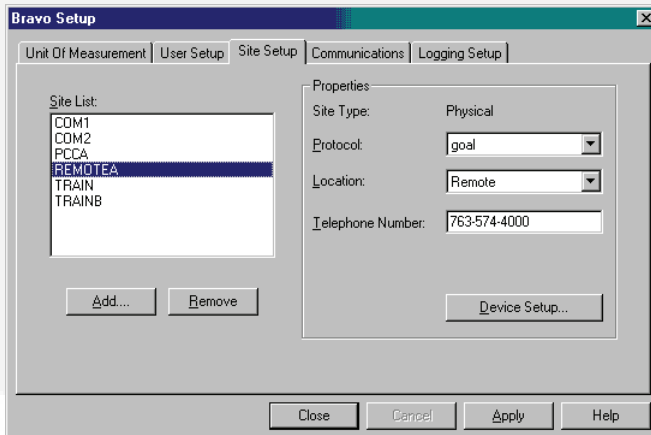

FIGURE 2-27. DEVICE SETUP
4. Click on **Remote**, in the Site List, then click on the **Device Setup** button to access the Device Setup dialog. Click on the **Add** button to access the Create Device dialog (Figure 2-27). For remote communication, enter the following information in the **Create Device** dialog: